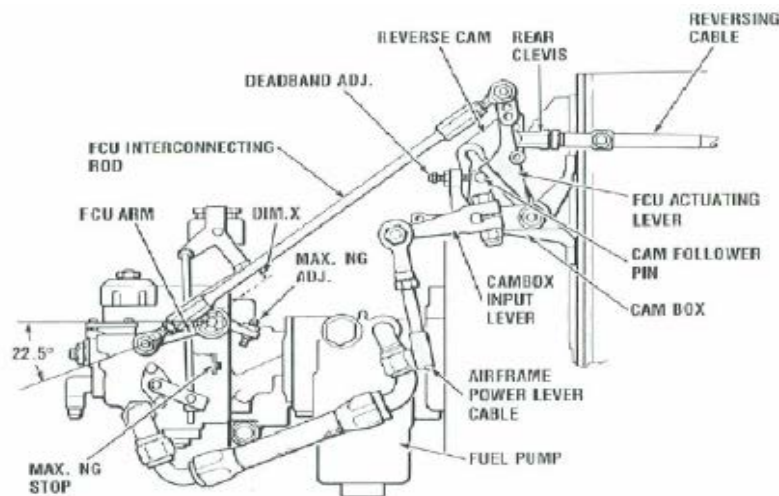

Figure 76-36 - Rear Linkage Feature Terminology
- D. Using two fingers to gently grasp the free end of the FCU interconnecting rod, pivot the rod until it is vertically oriented, and directly above the FCU arm. Refer to **Figure 76-36** for a review of the linkage terminology.